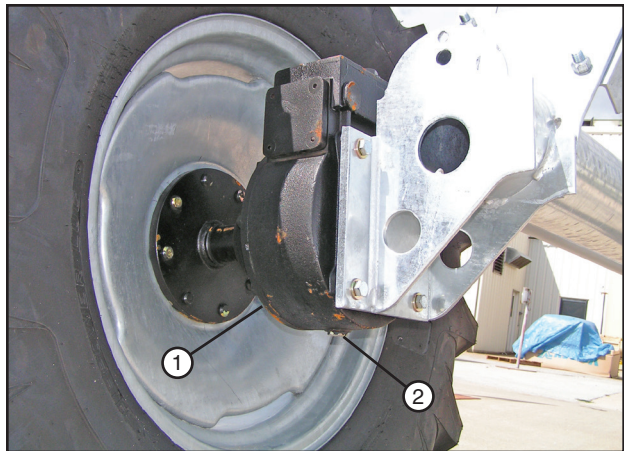

Figure 66-1 1. Wheel Gearbox
1. Remove the drain plug from the bottom of the wheel gearbox and drain the oil into a container. See figure 66-1.